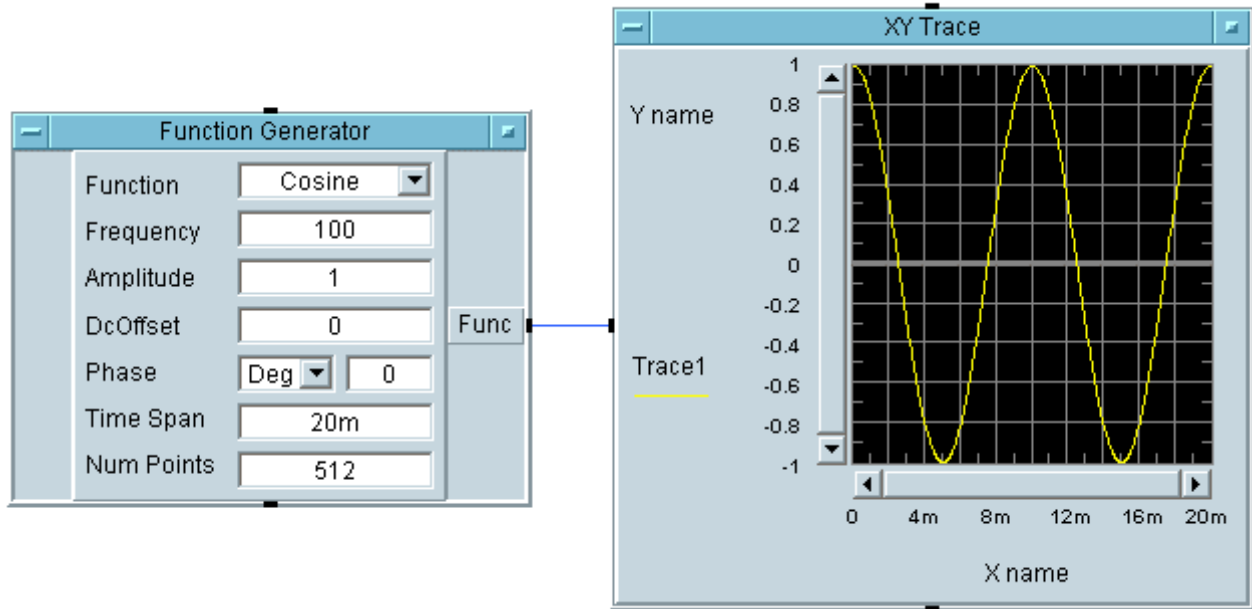

Figure 204 User Function Used with Panel Image to Picture
- 3 Add a UserFunction named UserFunction1 as shown in Figure 204. Note the minor modifications to the frequency and num points parameters in the **Function Generator**.